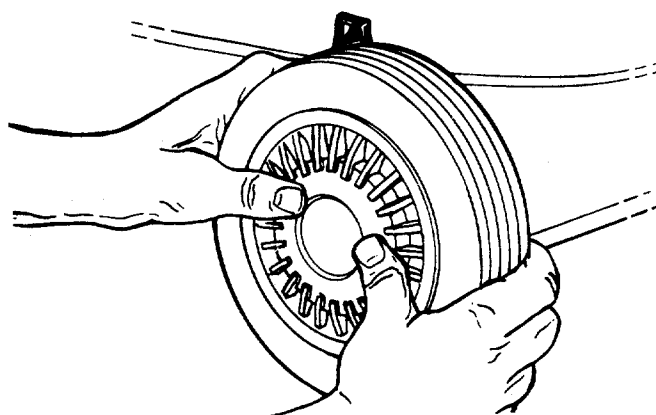

FIGURE 7.—Optional Hub Caps
2. If your mower is equipped with 2" wide tires, place hub caps in position against the inner hub of the wheel. Press firmly around the center portion of hub cap in a circular motion, similar to installing a lid on a round, plastic container. See figure 7. The hub caps are flexible and will snap over the 3 1/2" diameter wheel hubs.